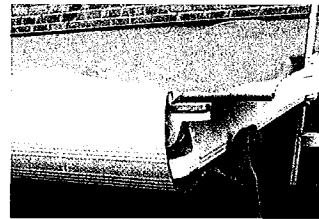

Fig. B4a -Slide Arm off
4. Slide connector (with arm ) completely off front bar and rest on ladder. (Fig. B4a)